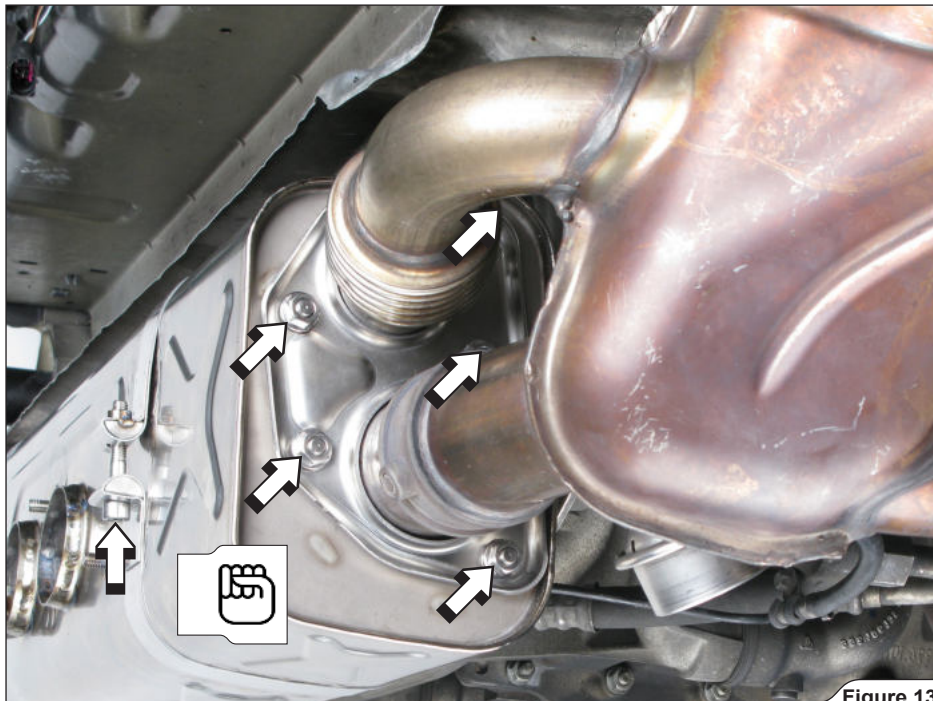

Figure 13
2. Hang Akrapovič central muffler onto the vehicle and simultaneously insert right side muffler pipes, as shown. Hand tighten clamp bolts and flange nuts (**Figure 13, 14**).